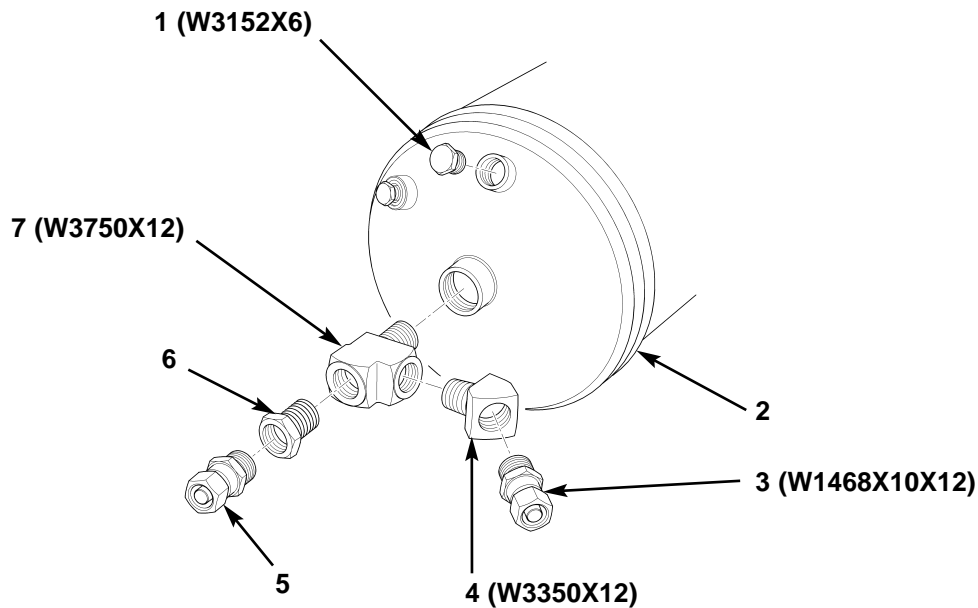

Figure 57. Installing Fittings on Primary Reservoir.
35. Install new tee (figure 57, item 7) on primary reservoir (figure 57, item 2), and install reducer bushing (figure 57, item 6) and new elbow (figure 57, item 4) on tee (figure 57, item 7) as shown in figure 57.
36. Install adapter (figure 57, item 5) on reducer bushing (figure 57, item 6), and install straight fitting (figure 57, item 3) on elbow (figure 57, item 4).
37. Install plug (figure 57, item 1) on primary reservoir (figure 57, item 2).